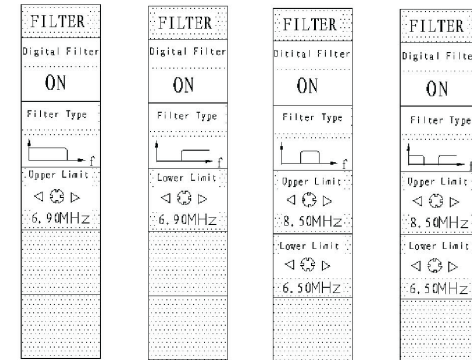
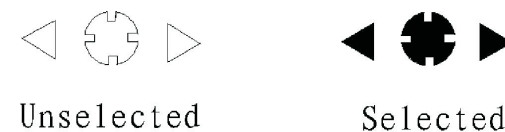

Figure 2-6
Figure 2-7
(2) Digital filter, see Fig.2-6 and Fig.2-7